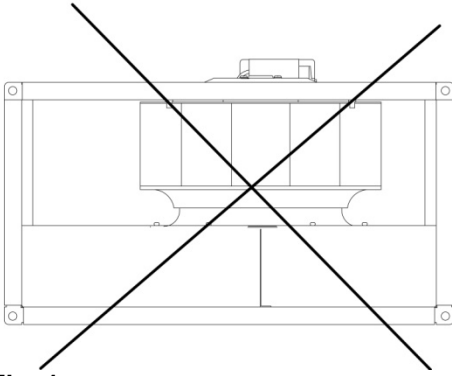
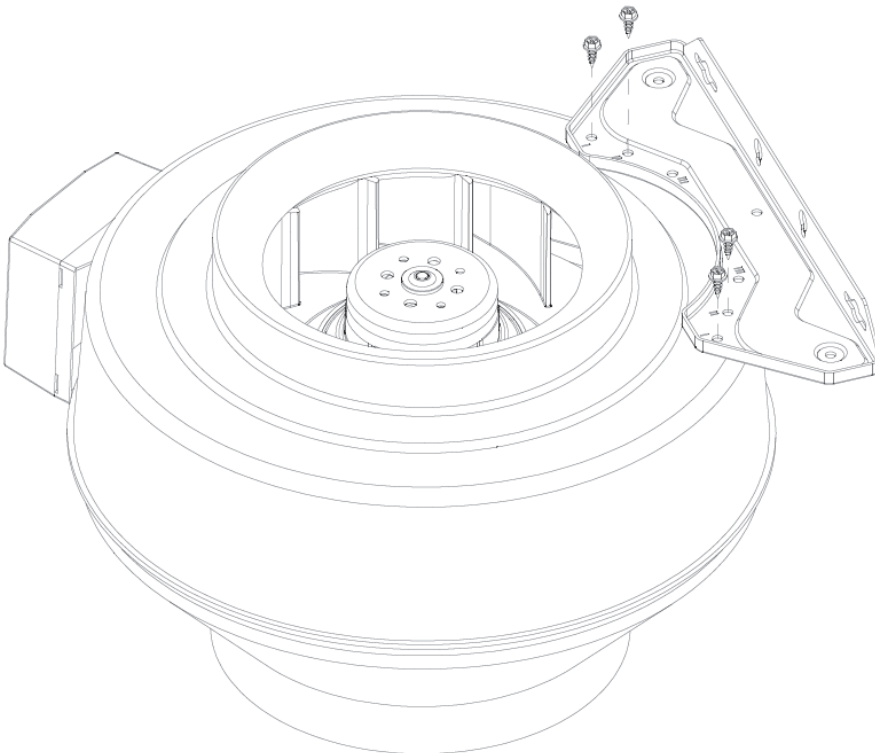

Fig. 1
Fig 3
Refer to Safety information above. Installation, electrical connection and commissioning are only to be carried out by authorised personnel and in accordance with requirements and demands. Electrical connections are made according to the wiring diagram in the terminal box, markings on terminal blocks or on cable. All 3 phase fans are delivered from factory in 400V 3~ connection. Seal any empty cable glands with dummy plugs. The K-fan must be installed with the connection box at the top of the unit  $\pm 90$  degrees. If permanent installation is carried out using cables with diameter 12-14 mm, the entrance bush must be replaced (applies to type K, KV, RVF and KVK 125/160). To preserve IP44 the RS fans must not be mounted with the connection box/motor plate upwards (**Fig.1**). Fans with thermal contacts with external leads (TK) must always be connected to external motor protection. Assemble the fan in the direction of airflow (see arrow on unit). The fan must be installed to ensure that any vibration is not transmitted via the duct system or frame of the building. (Suitable accessories such as fast clamps and diffusers are available). Make sure the assembly of the fan is firmly fixed and stable (**Fig 3**). The fan can be mounted in any direction unless stated otherwise. The fans must be installed to ensure that service and maintenance can be performed easily and safely. Disturbing noise can be reduced by installing silencers (available as an accessory). When using frequency regulation an all pole sinus filter must be mounted between motor and frequency controller (version all poles: phase to phase, phase to earth). Fans are meant for continuous use within the temperature range stated.